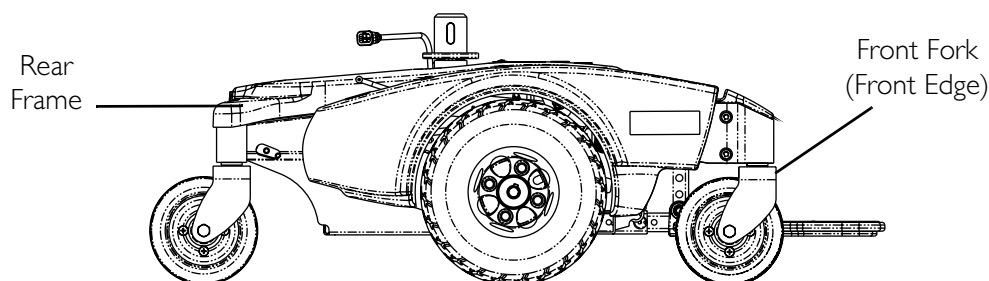

FIGURE 3.4 Lifting/Stairways
NOTE: For this procedure, refer to FIGURE 3.4.
5. Ensure that the casters are oriented as shown in FIGURE 3.4.
6. Using the rear and front forks as hand hold supports, transfer the wheelchair base to desired location. Refer to FIGURE 3.4.